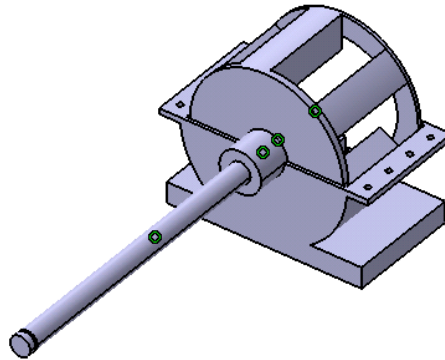

Figure 11-75 Position of the Motor Shaft with respect to the Blower shown from back side
4. Choose the **Quick Constraint** button from the **Constraints** toolbar and move the cursor over the Motor Shaft. The axis of the shaft will be displayed as a center line. Select the axis by clicking over the center line. The axis will be now highlighted in orange. Similarly, select the axis of the Blower hub. The **Coincidence** constraint will be automatically applied between the two selected axes. Update the model to place the Motor Shaft inside the Blower hub, as shown in Figure 11-75.